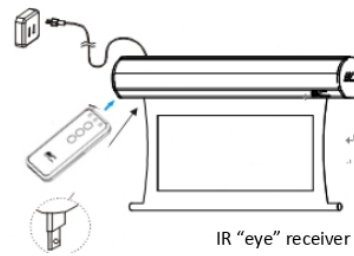

Fig.2
2. **IR "Eye" Receiver (Item E, Fig 2):** The IR "Eye" Receiver plugs directly into the screen's RJ-45 input to present a low-profile line-of-sight control option for your IR remote control. It is an extended eye-receiver to accommodate a recessed ceiling installation..